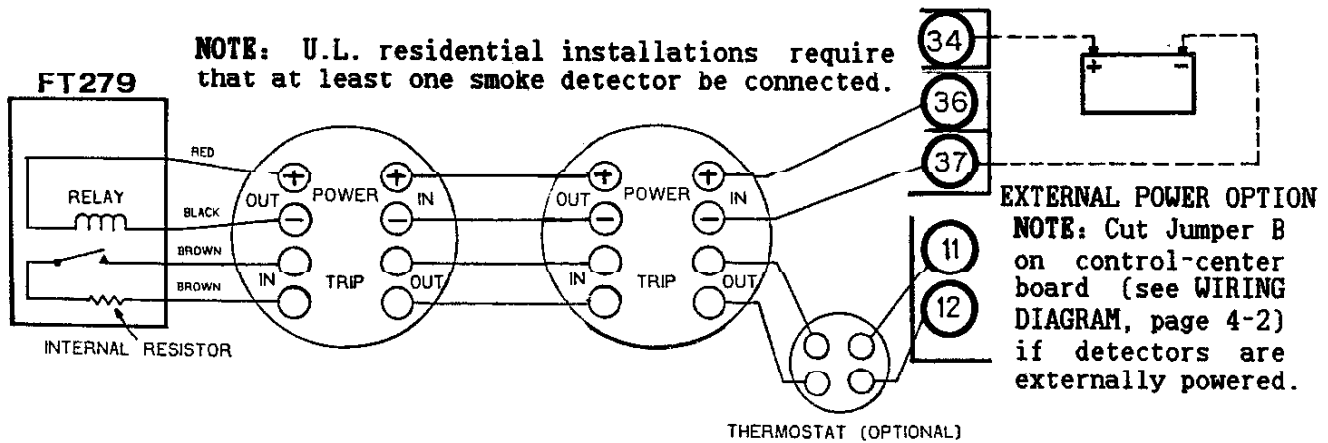

Fig. 4-3c. Powered smoke detectors reset by the control center.
- (1) Connect detectors to Output 2 (Fig. 4-3c). If the detectors are externally powered, (a) cut Jumper B to isolate Output 2; (b) connect the power supply positive lead to Terminal 34 and the positive lead of the last device to Terminal 36. Connect the negative leads to ground (Terminal 37).
- (2) The Reset Output 2 Devices feature must be programmed (PROM location 189).
- (3) After steps (1) and (2) are completed, holding down Key 9 will momentarily remove power to the detectors, resetting them.
To activate devices when 12 volts dc is supplied through Output 2, connect the positive lead of the first device to Terminal 35 and the negative lead to Terminal 37 (Fig. 4-4a). To deactivate devices (such as fire detectors) when the 12-volt dc control-center output is removed from Output 2, connect the positive lead of the first device to Terminal 36 and the negative lead to Terminal 37. (See Terminals 11-12: Fire Zone - Fig. 4-3c.)
To isolate Output 2 for use with devices powered externally, cut Jumper B. Connect the positive lead of the external power supply to Terminal 34. To activate devices when the contacts on Output 2 close, connect the positive lead of the device circuit to Terminal 35 (Fig. 4-4b). To deactivate devices when the contacts on Output 2 open, connect the positive lead of the first device to Terminal 36 (Fig. 4-3c).